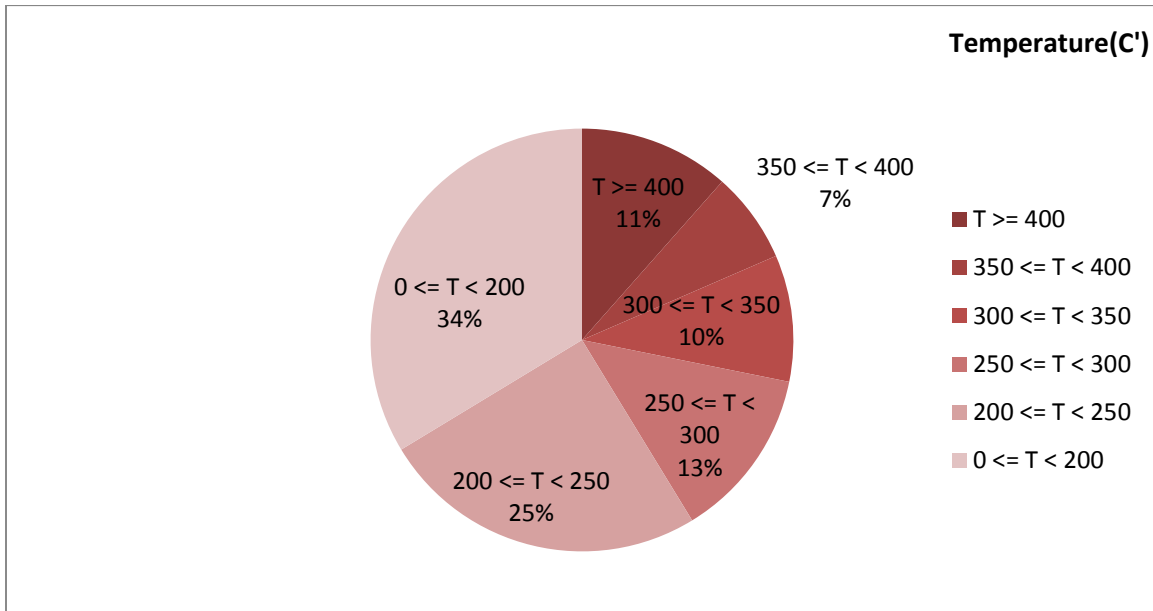

Figure 2-Temperature distribution over the working hours
- Figure 2 displays flow temperature before the DPF. It can be obviously observed that 11% of total working time temperature is above 400 °C and 18% above 350°C.